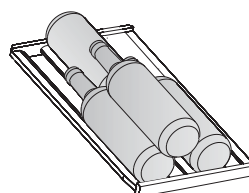

Fig A1
1) Wine Compartment (Right): It will be necessary to position the bottles alternately on the upper six shelves, This will allow for the storage of four (4) 750ml bottles on the top shelf(Fig.A) and three(3) bottles per rack in each of the four shelves(Fig.A1),and five (5) bottles on the bottom(Fig.A2) for a total storage capacity of 21 wine bottles.